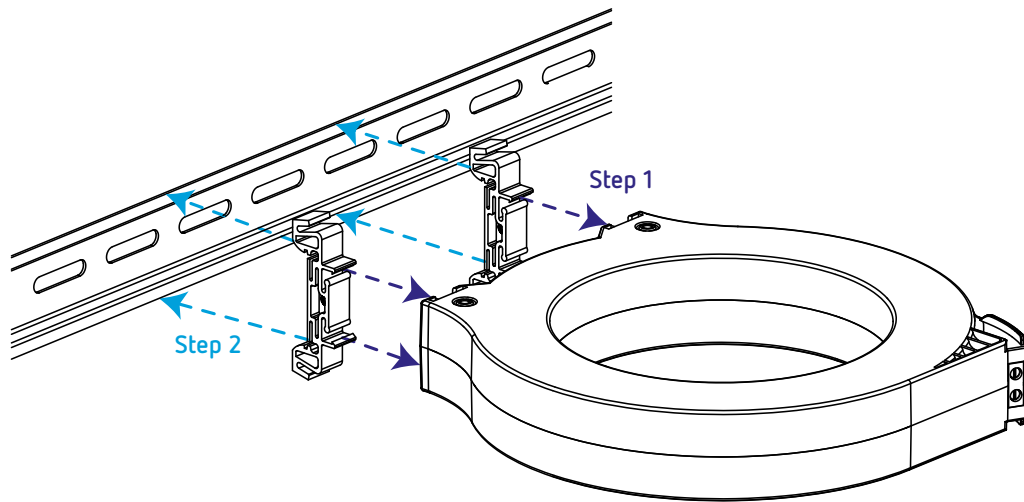

Figure 9: Installing a WGS/WGC on the DIN rail.
- 1 - Install the brackets in the **WGS/WGC**, **Step 1** in **Figure 9**.
- 2 - Install the **WGS/WGC** on the DIN rail, **Step 2** in **Figure 9**.